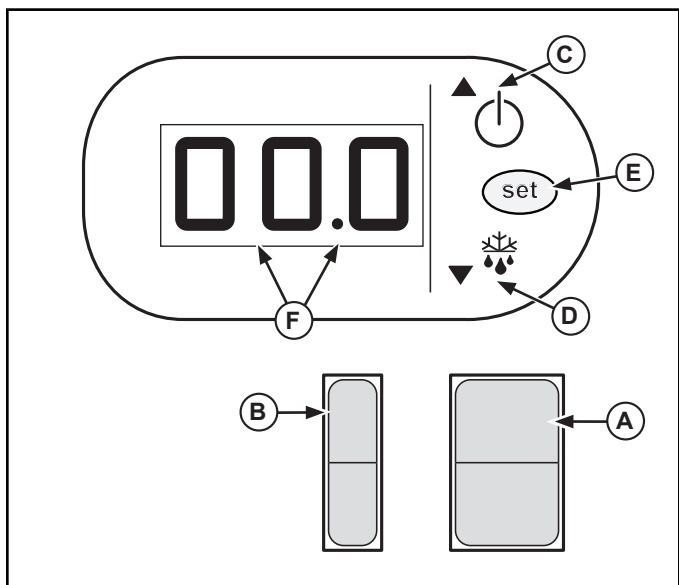

Figure 2. Heated Display Cabinet Switch and Panel .
1. Switch the main power switch (A) to the ON position. See Figure 2.
2. Switch the light switch (B) to the on position if desired.